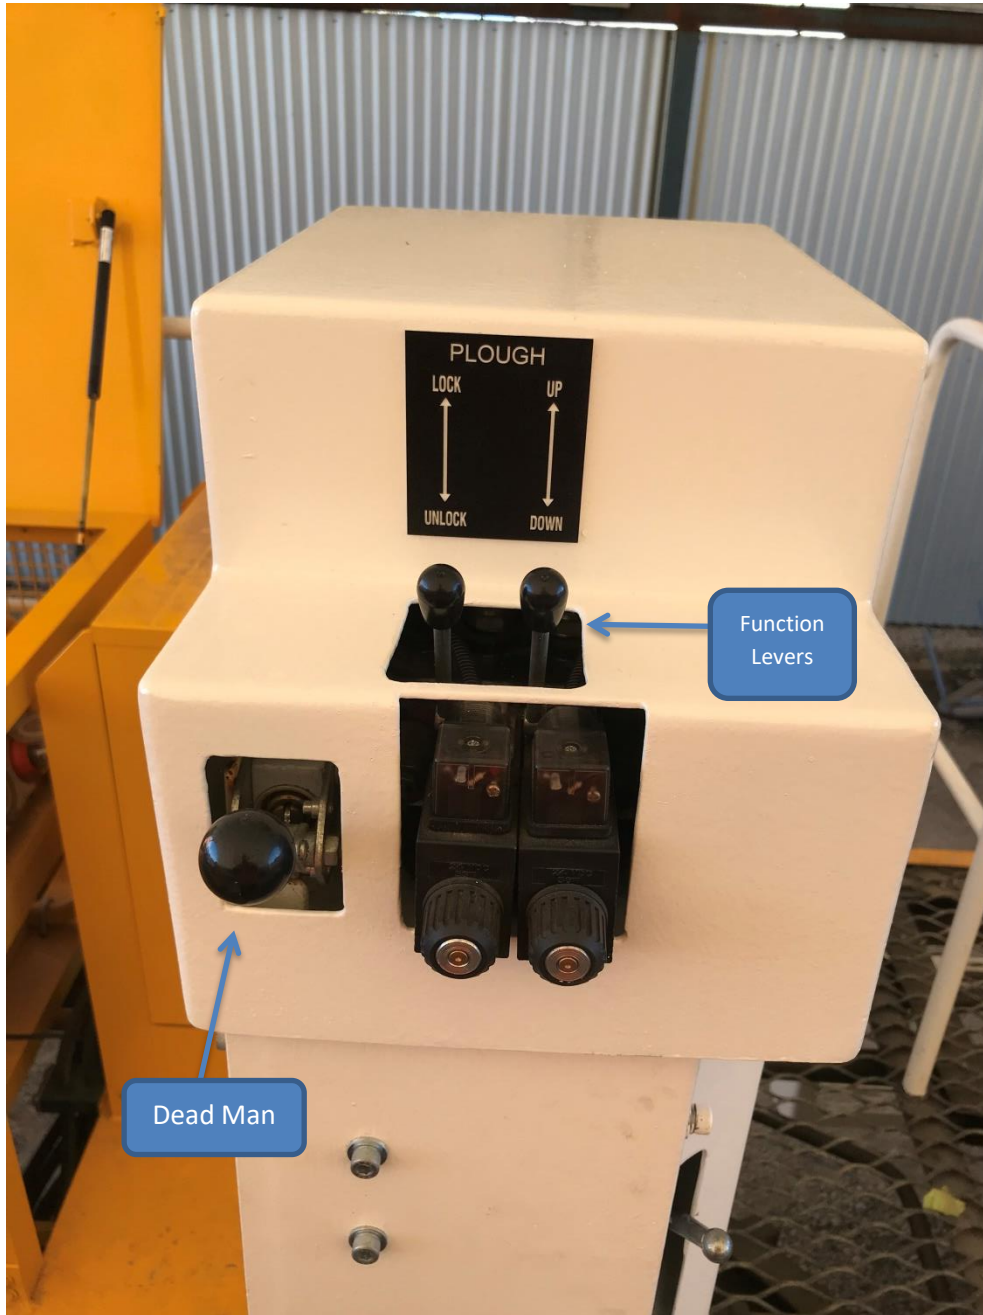

Figure 2.3
1. The plough may also be operated manual directly from the DCV located on the control post. Please refer to Figure 2.3. The reasons for this may be as follows: